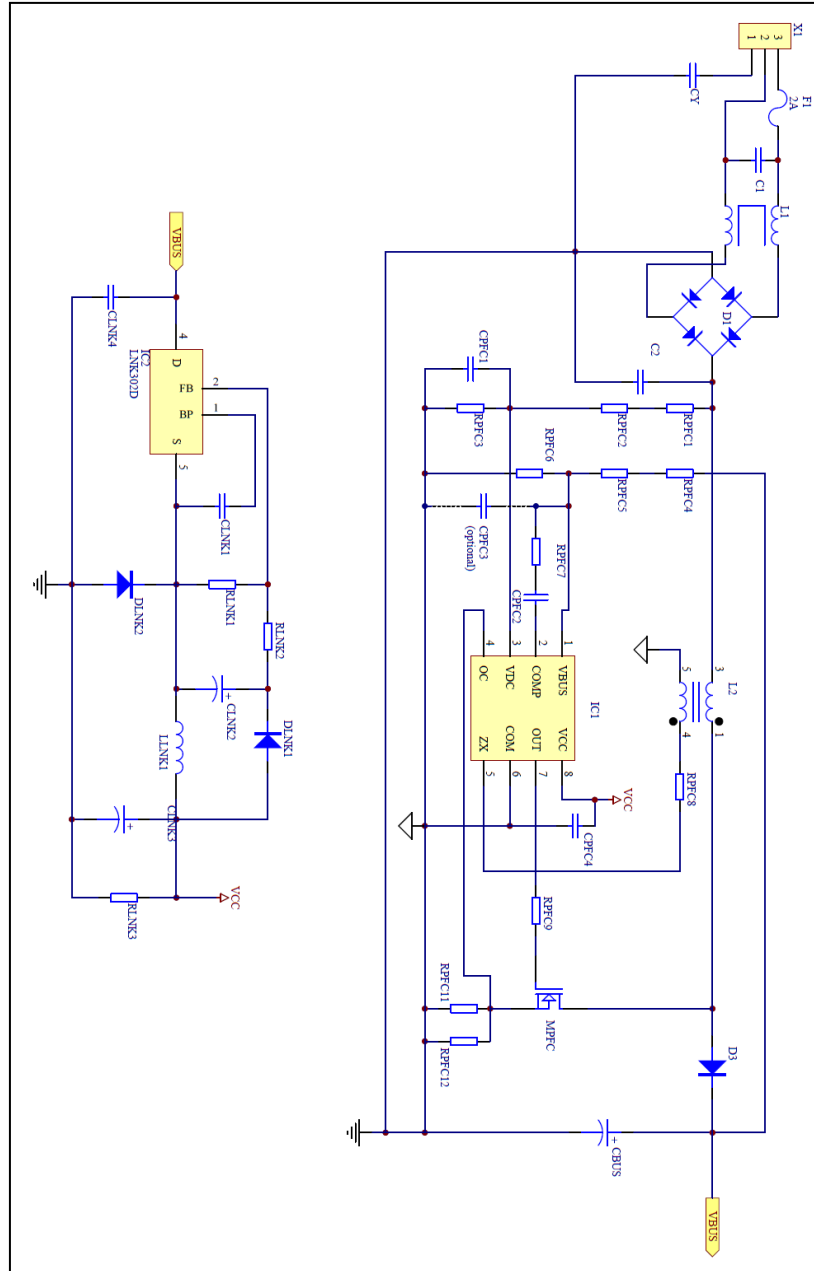

Figure 4.1: IRPLHID2 Circuit Schematic 1
the buck high-side and full-bridge high and low-side output drivers are activated. The low voltage power supply is realized with buck converter circuit utilizing the Link Switch LNK302D (Figure 4.1). Once the voltage on VCC reaches the start-up threshold (UVLO+), voltage on VSENSE pin is above VOV threshold and the voltage on RST pin is less than 1.5V, the IC turns on and the full-bridge oscillator (CT) and gate driver outputs (HO1, LO1, HO2 and LO2) begin to oscillate. During UVLO mode, the full-bridge and buck are off, the ignition timer and clock are off, the fault and good counters are reset, and the fault latch is reset.